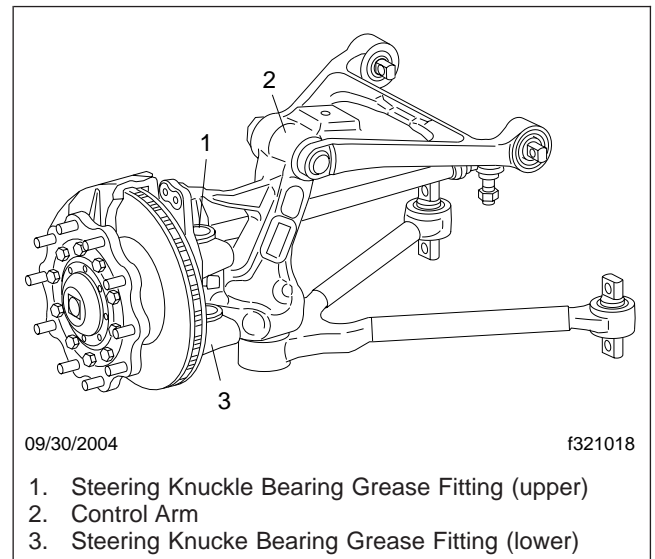

Fig. 4, Pressure Grease Fitting Positions, RL-75E
3. Lubricate the steering knuckle/control arm at indicated maintenance intervals. Use only an NLGI Grade 2 lithium-based grease, multipurpose grease, or mineral oil on the lubricating points. See Fig. 4 and Fig. 5.